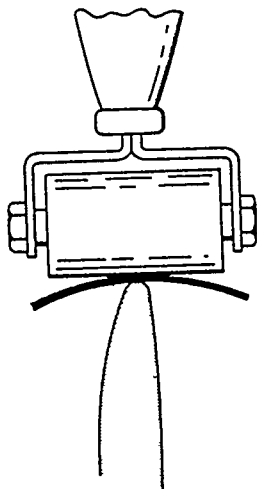

Figure 11-10. Center Rolling
g. Position the deicer boot on the propeller, starting $2 \pm 1/16$ inch from the blade retaining clamp, making sure the lead strap is in position to clamp to the blade retaining clamp. Moisten the cement lightly with methyl ethyl ketone or toluol and tack the boot center line to the blade leading edge. If the center line of the boot deviates from the blade leading edge, pull up with a quick motion and replace properly. Roll firmly along the center line with a rubber roller. (See Figure 11-10.)